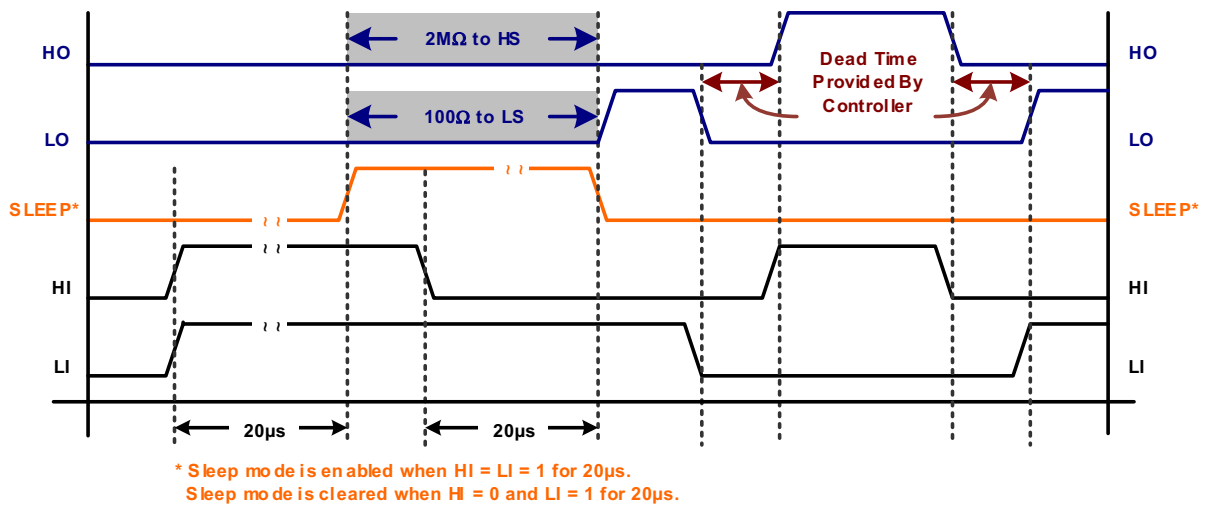

Figure 7. Sleep Mode Enabled or Cleared by HI and LI Inputs
| Time Delay to Set Sleep Mode ( <a href="#">Note 16</a> , <a href="#">Figure 7</a> )     | $t_{SlpS}$  | HI = LI = 0 -> 1                         |                     | 17   |     | 9                                     | 27   | $\mu s$ |
| Time Delay to Reset Sleep Mode ( <a href="#">Note 16</a> , <a href="#">Figure 7</a> )   | $t_{SlpR}$  | HI = 0, LI = 0 -> 1                      |                     | 17   |     | 9                                     | 27   | $\mu s$ |
16. When HI and LI are on simultaneously, HO and LO are never on simultaneously. This feature is intended to initiate sleep. This feature cannot be used to prevent shoot-through for normal alternating switching between LI and HI. Dead time must be provided when HI = 0 -> LI = 1, or LI = 0 -> HI = 1. See Timing Diagrams (Figure 7 on page 13).